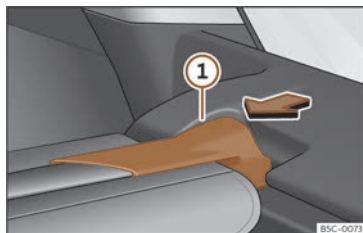

Fig. 176 In the luggage compartment: remove the shelf.
- Press the rear shelf support >>> **Fig. 176** ① in the direction of the arrow.
- Engage the support of the rear shelf >>> Fig. 176 ① into the housing on the other side.